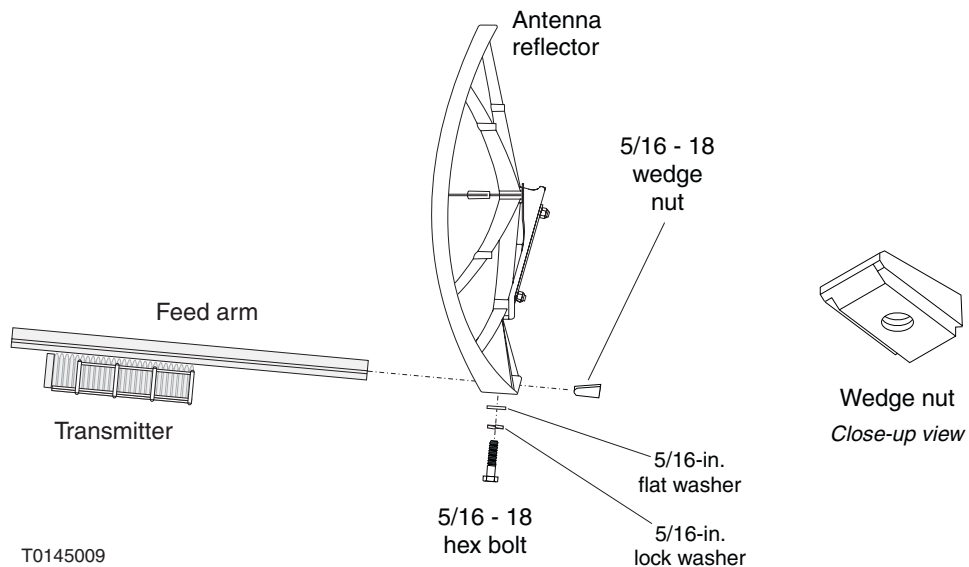

Figure 25: Inserting the wedge nut bolt
1. Insert the 5/16-18 wedge nut, thinner end first, into the slot provided on the back of the reflector, as shown in Figure 25. The wedge nut is keyed so that it will fit properly only one way into its slot in the reflector.
Make sure the hole in the wedge nut is aligned with the hole in the reflector so you can insert the bolt. See Figure 25.
If you have the reflector turned upside down to insert the feed arm, the orientation is the opposite of that shown in Figure 25.